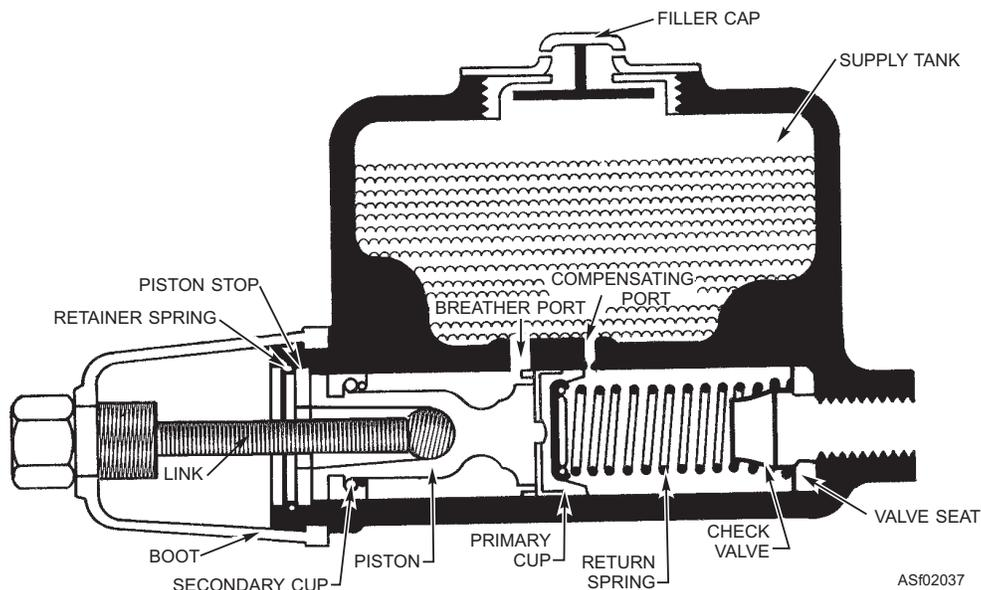

Figure 2-37.—Hydraulic brake master cylinder.
**Master Cylinder.**—A cutaway view of a typical master cylinder is shown in figure 2-37. The unit consists basically of an iron casting that contains a reservoir for the fluid and a machine-finished precision cylinder that houses the piston, return spring, and two-way valve assembly.
vehicle. If a stoplight switch is mounted on the cylinder, the wires must be disconnected first. Next, the hydraulic line and the pedal linkage are disconnected from the cylinder. Then, loosen the hold-down bolts and remove the cylinder. The exterior surface of the cylinder should be thoroughly cleaned before disassembly. Figure 2-37 identifies the various components and parts of the master cylinder.